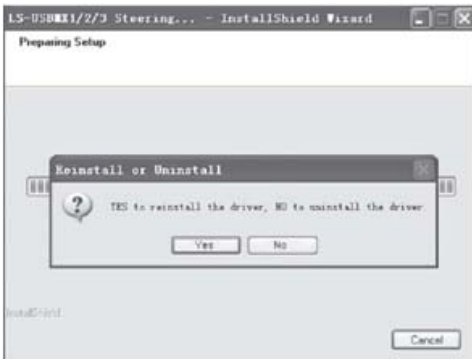

Fig. 11
- *Driver Uninstall (reinstall).* Restart the driver installer. Click “No” to remove the driver. Click “Yes” to reinstall the driver (see Fig. 11).